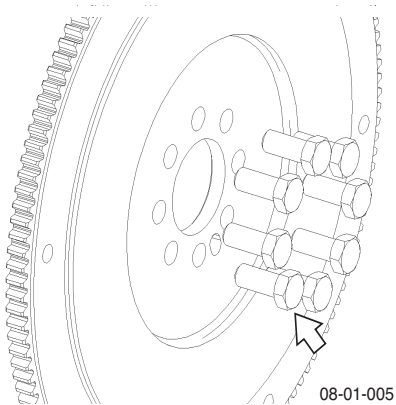

Fig. 3
- Remove bolts (x8) from flywheel to crankshaft and discard bolts (see Fig. 3).